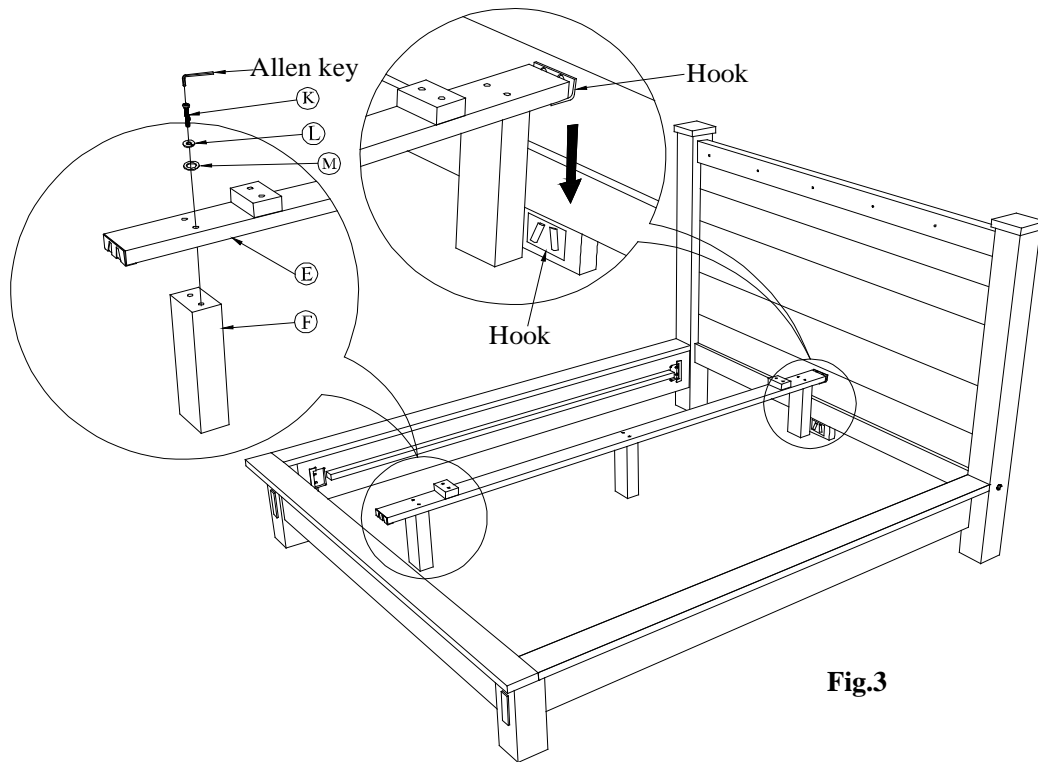

Fig.3
4. Attach support feet (F) to center rail (E) by using Allen bolts (K) with small spring washers (L), small flat washers (M), tighten with Allen key provided. Attach the assembled center rail to headboard (A), footboard (B) by connecting the hooks on end of center rail (E) and the hook on headboard (A)/ footboard (B). Make sure connection is secure. **Fig.3.**